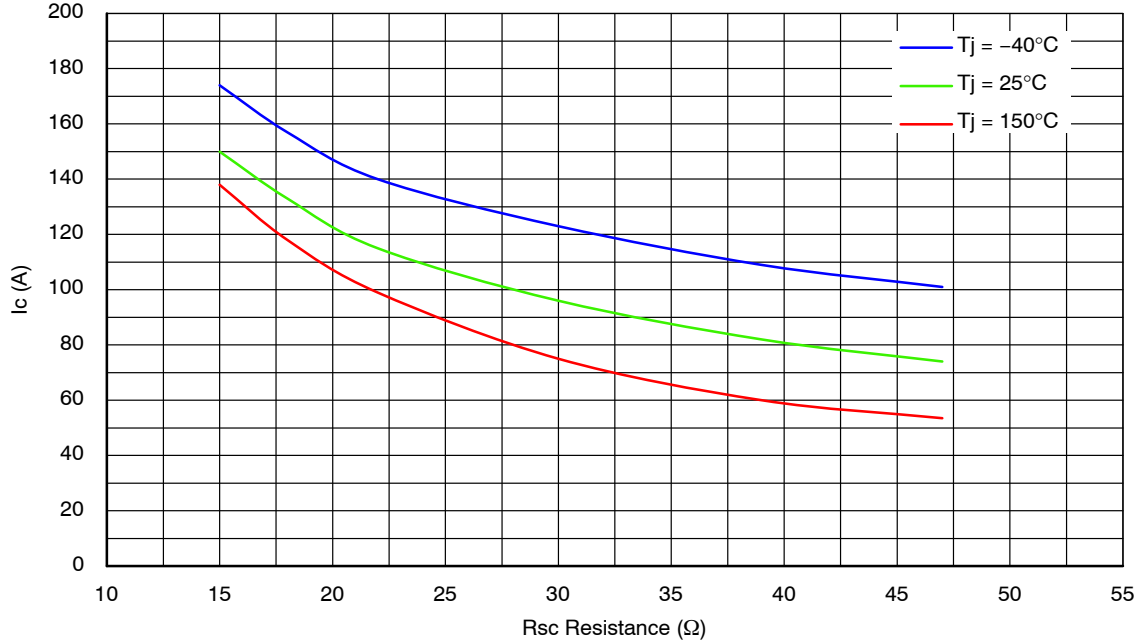

Figure 16. Rsc Resistance vs. Trip Current Level for Protection at Variable Junction Temperature of NFAL7565L4B(T)
transmitted from SPM 49 to MCU. Since repetitive short circuit is not allowable, IGBT operation should be halted immediately when the fault signal is given. Figure 16 shows “R_{SC} resistance vs. trip current” curve of NFAL7565L4B(T) under the shunt resistor = 0 Ω condition.